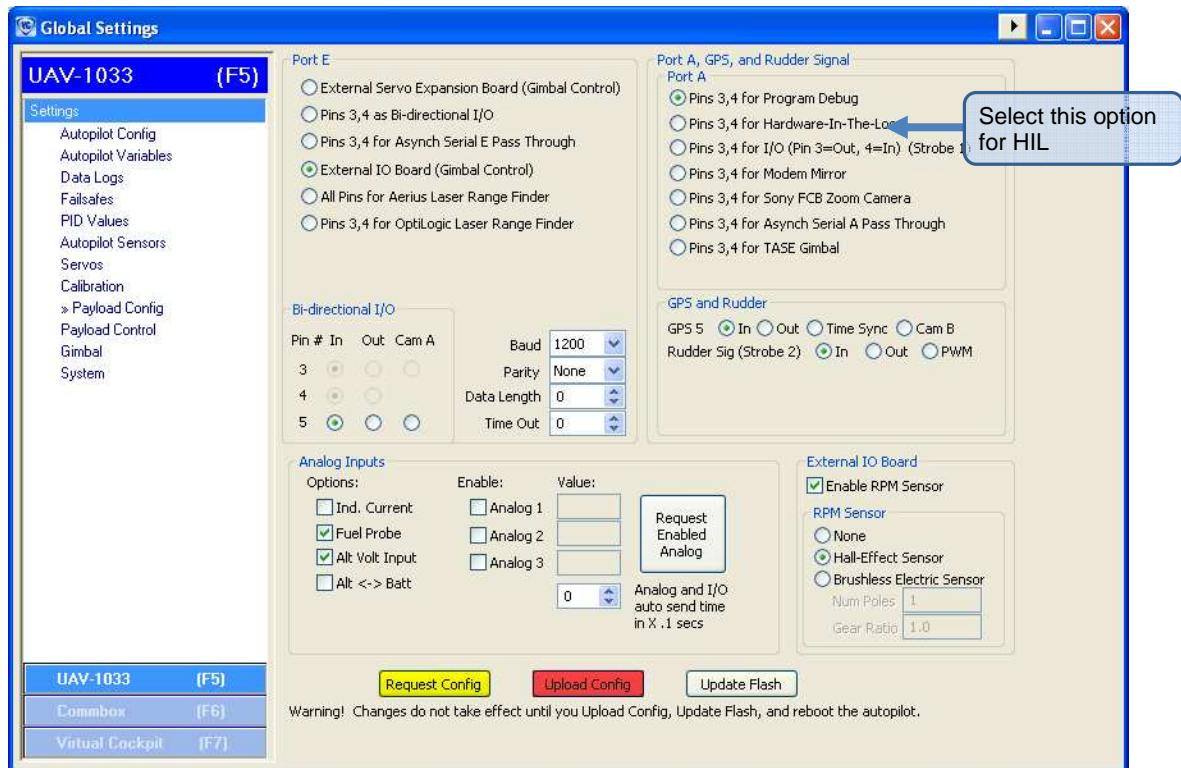

Figure 7-5 Configuring autopilot for HIL over serial A
1. Configure the autopilot to accept HIL information through serial port A. This is done in the Payload configuration screen in the Virtual Cockpit (See Figure 7-5). Under heading **Port A, GPS, and Rudder Signal**, select **Pins 3,4 for Hard ware-In-The-Loop**.